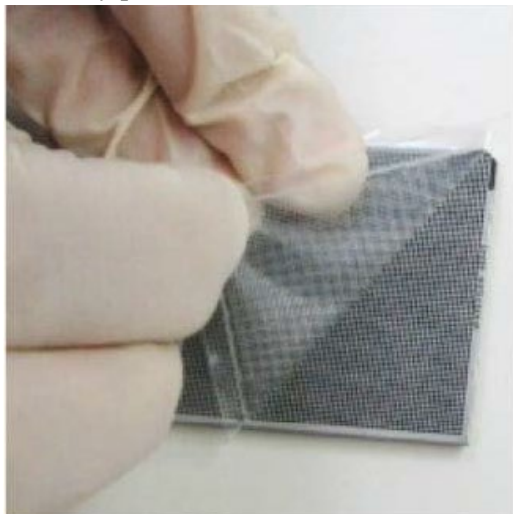

Figure 46. Removing the RC Film from the chip. Start from one corner and apply even pressure to pull.
- Carefully peel off the RC Film from the chip (Figure 46, below).